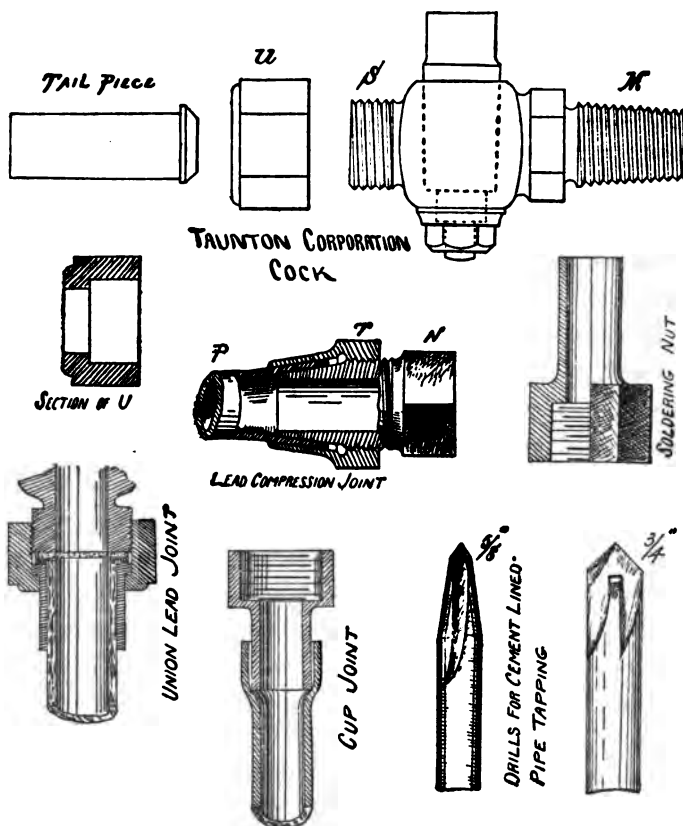
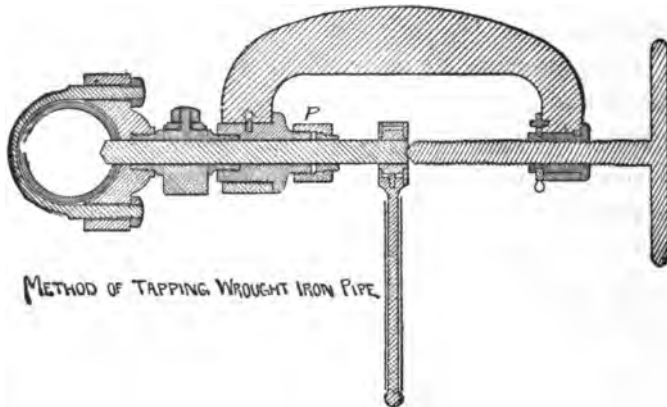

FIGURE 22.
FIGURE 24.
Referring to Figure 22, in which is represented the particular pattern of corporation cock, with full  $\frac{3}{4}$ -inch way designed by the writer, for use upon the Taunton Water-Works, the end M is the end which is screwed into the main. The general form of this end is the same no matter what is used for service-pipe. Something is saved in the cost of manufacture by using the same thread at S and M. Eleven, twelve, fourteen, or sixteen threads to the inch are admissible, but fourteen has been found to give good results in the practice of the writer. At the end S and in the parts immediately following there is room for great variation in form and method. With the nut *u* (shown also in section) and the tail-piece forming a ground union-joint at the end S, this form of cock may be used (1) with lead service-pipe by making a wiped joint or a cup-joint between the lead pipe and the tail-piece; or (2) with any kind of wrought-iron service-pipe by joining on to the tail-piece a short piece of lead pipe, perhaps 18 inches, just as if the service were to be of lead pipe, and then, by attaching a soldering nut, as shown, and continuing the line with screw-joint pipe.
The compression-joint was in use a few years ago in Taunton, but was abandoned for a cup-joint. The corporation-cock then in use was shaped at the end S like the projecting part of N in the compression-joint shown in Figure 22, and tightness was secured by scraping the outside of the lead pipe to a reasonably smooth surface, so that the cone-shaped nut would draw the lead pipe firmly over the conical projection; the lead pipe having been first spread by driving in a solid plug.
It is evident that this principle can be applied in a variety of ways, and that castings can be designed to fit any combination of materials. For example, the cup-joint in Figure 22 shows how a wrought-iron service-pipe may be joined to a lead connection from the corporation-cock. The lead pipe is attached by a wiped or cup joint to the soldering nut, which is tapped out to receive any size of wrought iron or brass pipe that one chooses.
Still another form of joint has been brought to my attention, by Mr. J. G. Briggs, Superintendent of Water-Works at Terre Haute, Ind., and shown also in Figure 22, as a union lead joint. Mr. Briggs says the idea is not a new one, but was used twenty years ago or more by an English company who did a large amount of work at Rio Janeiro, Brazil, and that in San Francisco the joint has been used for sixteen years with good results. The lead pipe is put through the
A cup-joint is shown in Figure 22, and is made by expanding the end of the lead pipe with a properly shaped plug, scraping the inside of the cup with a jack-knife to give a surface of clean metal, dropping a soldering nut or tail-piece, properly tinned, into the cup, heating the whole joint by some appropriate method, and finally by filling the thin annular
different conditions call for different treatment. Figure 24 shows in section the apparatus used for tapping wrought-iron kalamein pipe, used by Mr. Frank E. Hall, Superintendent of the Quincy, Mass., Water Co., and to whom I am indebted for a drawing of the machine. A packing of sheet-lead is put between the clamp and the pipe at the point to be drilled, and if tightness is not secured by screwing the nuts down hard, the lead can be calked up.
soldering with an ordinary iron, or by wiping, and then, with an arrangement similar to that shown in Figure 24, a hole is drilled, passing the drill through the opened cock. After perforation the drill is withdrawn just far enough to allow the tapper to close the cock, and then the tapping apparatus is removed, the stuffing-box at P having kept the water back during the operation. Any convenient form of drill may be used, but Figure 22 shows the form used at Plymouth, Mass.